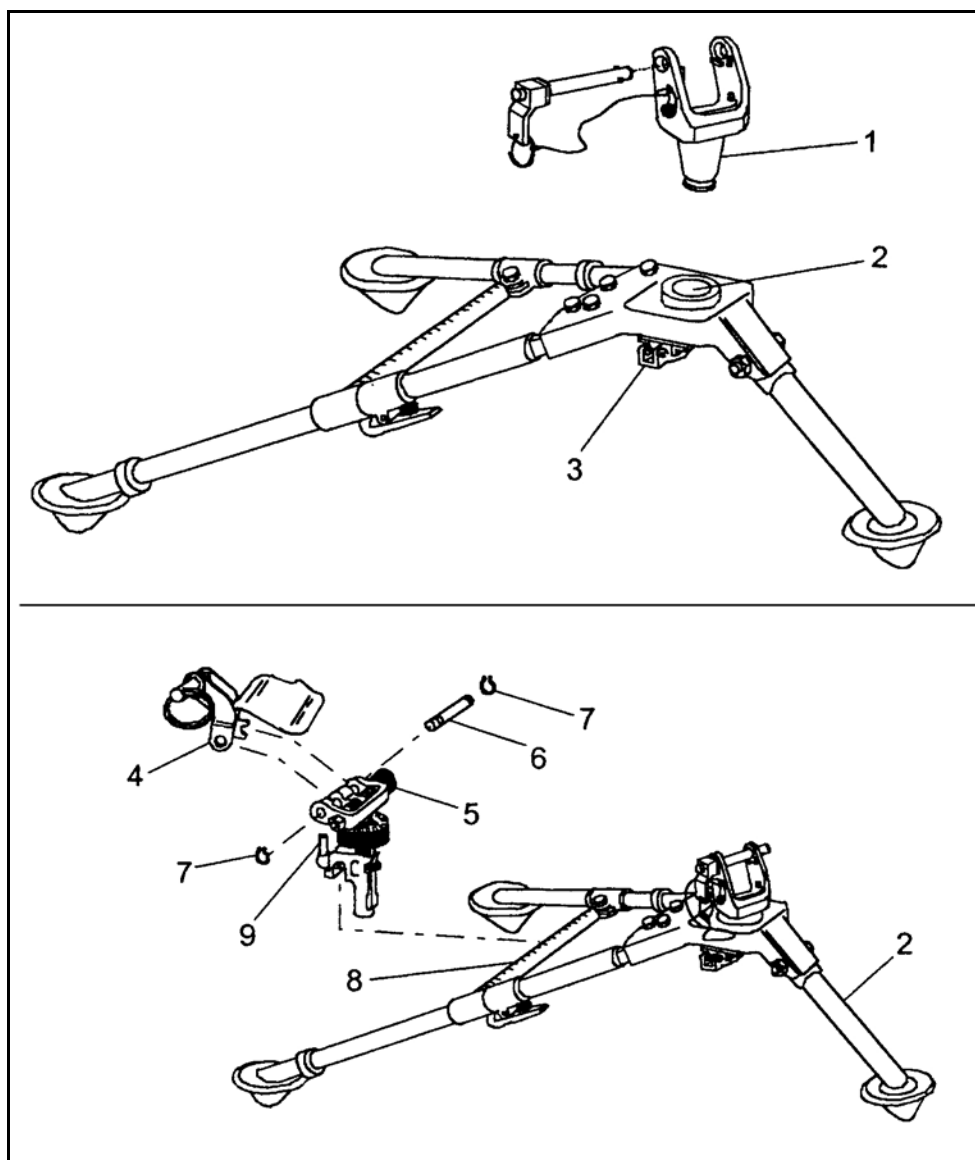

Figure 3-30. Mounting the M240B on the M122A1.
(4) Prepare the T&E mechanism for mounting. First center the elevating and traversing handwheel. To do this, he rotate the elevation handwheel until about 1 1/2 inches (two fingers) are visible on the upper elevating screw; rotating the traversing slide until approximately two fingers are visible on the lower elevating screw. The gunner rotates the traversing handwheel towards his body as far as it will go, then he turns it away two complete revolutions. He checks the traversing handwheel scale to ensure the "0" on the scale is aligned with the "0" index line before and after the two revolutions. The T&E should be centered now (Figure 3-30).
(5) Mount the T&E mechanism, pintle assembly, and fork assembly to the M122A1 tripod. With the T&E roughly centered, place the pintle assembly (1) into the sleeve bushing on the tripod leg assembly (2). Release the pintle lock (3) on the tripod leg assembly to secure the pintle assembly to the tripod (Figure 3-30).
(6) Align the holes in the fork assembly (4) with the holes in the T&E (5). Insert the pin (6) through the fork assembly and the T&E and secure with "C" clamps (7) (Figure 3-30).
(7) Mount the weapon on the M122A1 tripod assembly (Figure 3-30). Tilt the muzzle down slightly and insert the weapon's front receiver bushing (1) into the slots in the pintle assembly (2). Insert the quick-release pin (3) through the pintle (2) and front receiver bushing (1). Place the T&E assembly (5) (with fork assembly attached) onto the traverse bar (8) of the tripod leg assembly (2). Lock the T&E mechanism into place by turning the lock lever (9) clockwise. Lower the rear of the weapon into the fork assembly (4). Align the mounting holes (5) in the trigger housing with the hole in the fork assembly (4). Insert the spring pin (6) through the holes in the trigger assembly and fork but make sure the weapon is securely attached.